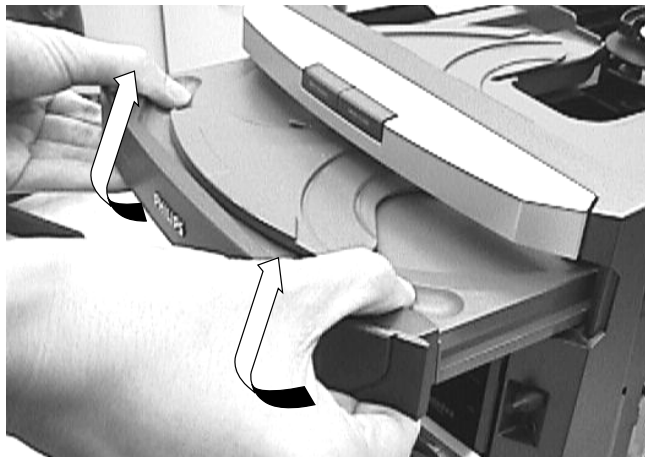

Figure 1
- 4) Remove the Cover Tray (pos 106) as shown in figure 1.